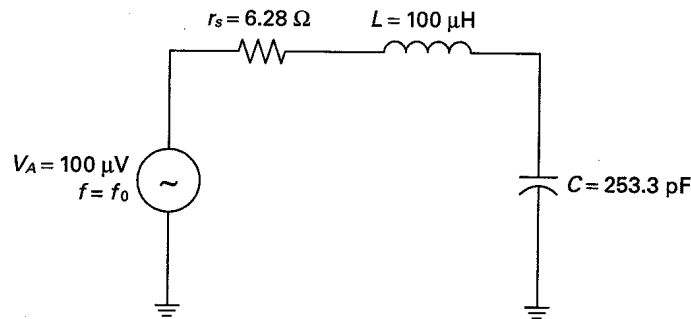

Fig. 1-4
**EXAMPLE 1.2** Refer to Fig. 1-4. Solve for  $f_0$ , BW,  $f_1$ , and  $f_2$ . Also, solve for the following at  $f_0$ :  $X_L$ ,  $X_C$ ,  $Z_T$ ,  $I$ ,  $Q$ ,  $V_L$ , and  $V_C$ .